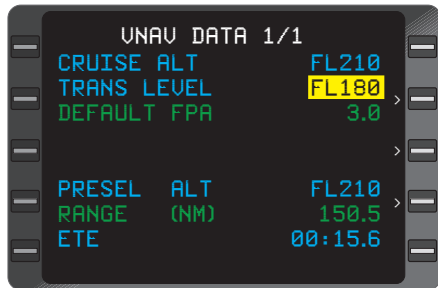

Figure 3-121
- 6. Transition Level - INSERT or VERIFY. (Figure 3-121)